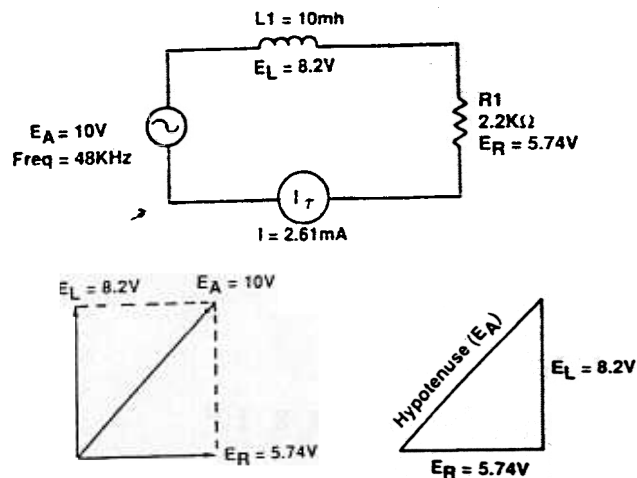

FIGURE 18
Using the procedures discussed above, calculate the impedance (Z) and the applied voltage (E_A) using the values shown in FIGURE 18.